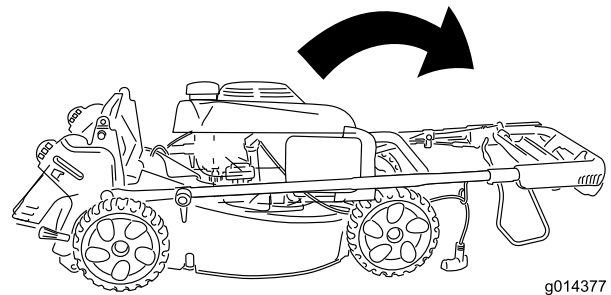

Figure 28
- For the shortest height, rotate the handle forward until it rests on the front wheels (Figure 28).